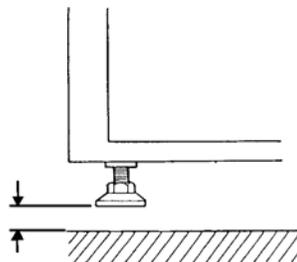

Figure 2-4
4. Adjust the printer's leveling feet (4) upward from the base plate. Allow a minimum of 20mm of clearance for the printer to move unobstructed down the ramp. (See Figure 2-4)